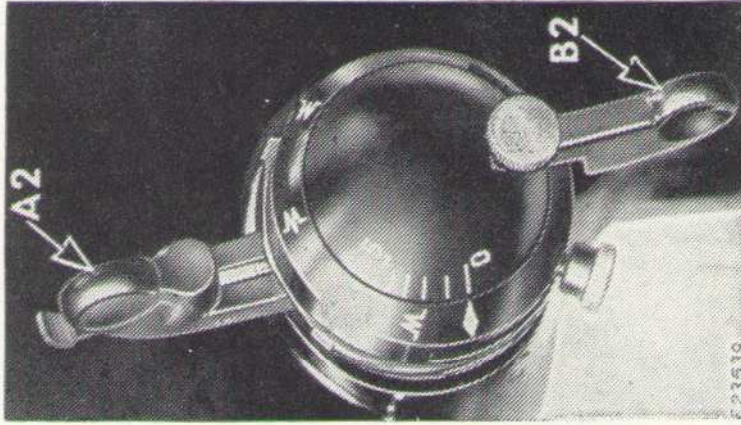

Fig. 37. Machine Set for Straight Stitching.
**CAUTION:** All of the parts shown on this page are designed for straight stitching only. They must not be used for zigzag stitching. Use only AFTER Needle Position Lever A2 is set at central position, and Bight Lever B2 is set at "0" as shown in Fig. 37.